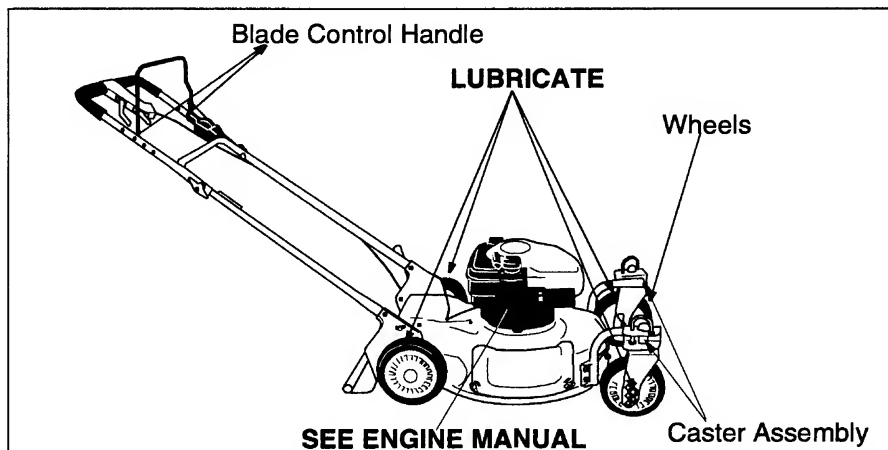

Figure 10
**Blade Control:** Lubricate the pivot points on the blade control handle and the brake cable at least once a season with light oil. See Figure 10. The blade control must operate freely in both directions.
**Wheels:** Lubricate the wheel at least once a season with light oil (or engine oil). Also, if the wheels are removed for any reason, lubricate the surface of the axle bolt and the inner surface of the wheel with light oil. See Figure 10.
**Caster Assembly:** Grease fittings are provided for easy lubrication of the swivel pins located on the front caster assembly. See Figure 10.